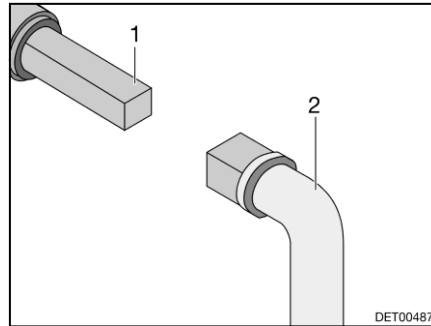

Fig. 99 Operation of the waste water tap
- Place key (Fig. 99,2) onto the square bolt (Fig. 99,1).